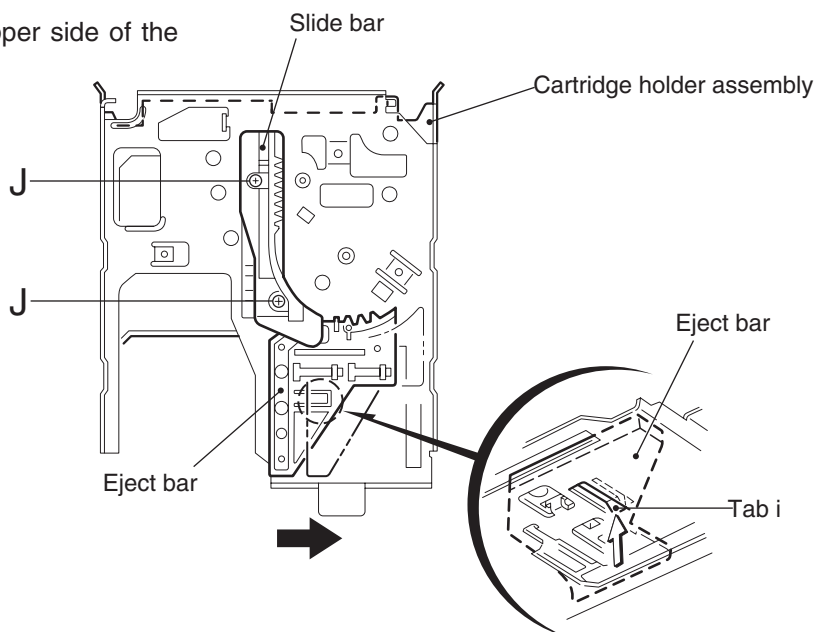

Fig.14
■ Remove the cartridge holder assembly (See Fig.14, 15)
■ Removing the slide bar/Eject bar (See Fig.14, 15)
2. Move the slide bar outward until it stops (See Fig.14). Push the tab **i** from below and remove the eject bar from the chassis section.